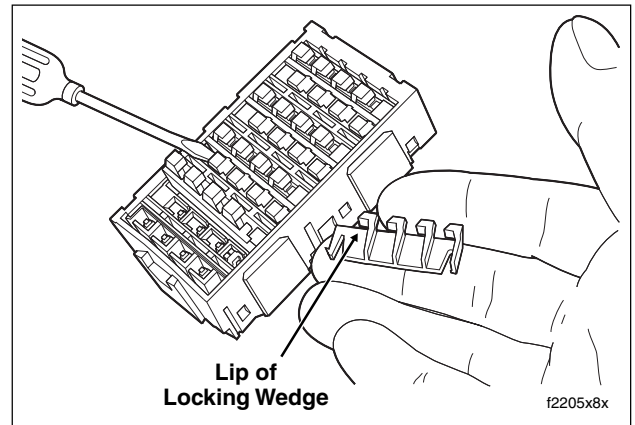

Figure 8-38. Remove Secondary Locks From Fuse Block
For best results, start with locking wedge on outboard side of secondary lock. See Figure 8-38.
- a. With the locking wedges positioned above the tangs in each chamber, slide flat side of secondary lock into slot (between rows), and push down until it bottoms. See Figure 8-38.